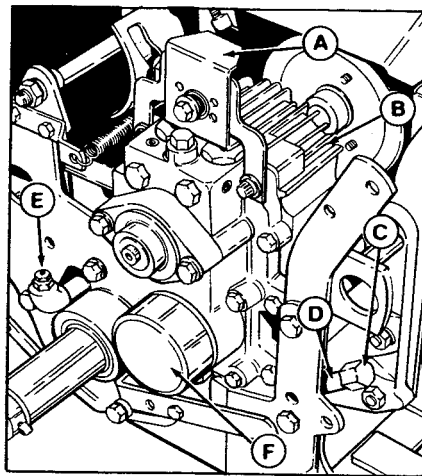
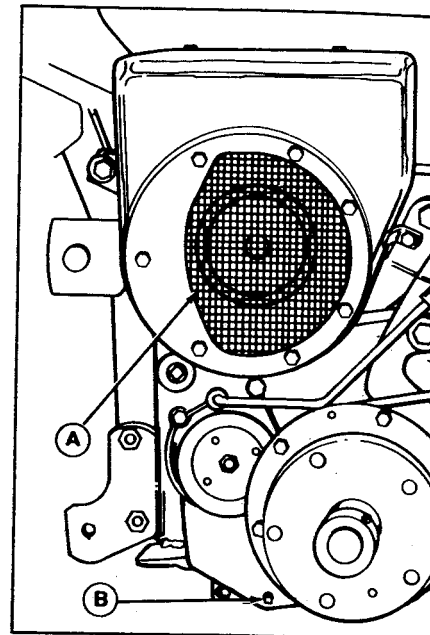

Figure 9. Hydrostatic Transmission
Figure 10. Hydrostatic Transmission
1. The tractor must be on a level surface and the free wheeling latch (A, figure 9) must be completely down.
2. Wipe the transmission fill cap (C) and fill tube (D) clean. Remove the cap (C).
3. Lift and hold the relief valve (E) open.
The filter is shown in figure 9. Replace filter every 400 hours of operation or whenever changing transmission fluid. Transmission fluid should be changed only when performing repair work on transmission or hydrostatic unit or if it becomes discolored from over-heating.
1. With hydrostatic transmission fluid hot, park tractor on level ground, place transmission control lever in neutral, place any PTO clutch levers in the disengaged position, engage parking brake, and stop engine. Press free wheeling latch (figure 9) down firmly to disengage the hydrostatic pump.
2. Remove hydrostatic transmission drain plug (B, figure 10) from lower right hand side. Remove dirt from around the fill cap (C, figure 9) and loosen cap to permit air to enter transmission.
5. Remove the fill cap (C, figure 9) and clean dirt away from the relief valve (E). Using a clean funnel, add *Simplicity* Multi-Purpose Hydraulic/Transmission Oil or Allis-Chalmers Power Fluid 821 into the fill tube while holding the relief valve up until fill tube will accept no more fluid. Replace the fill tube hand tight.